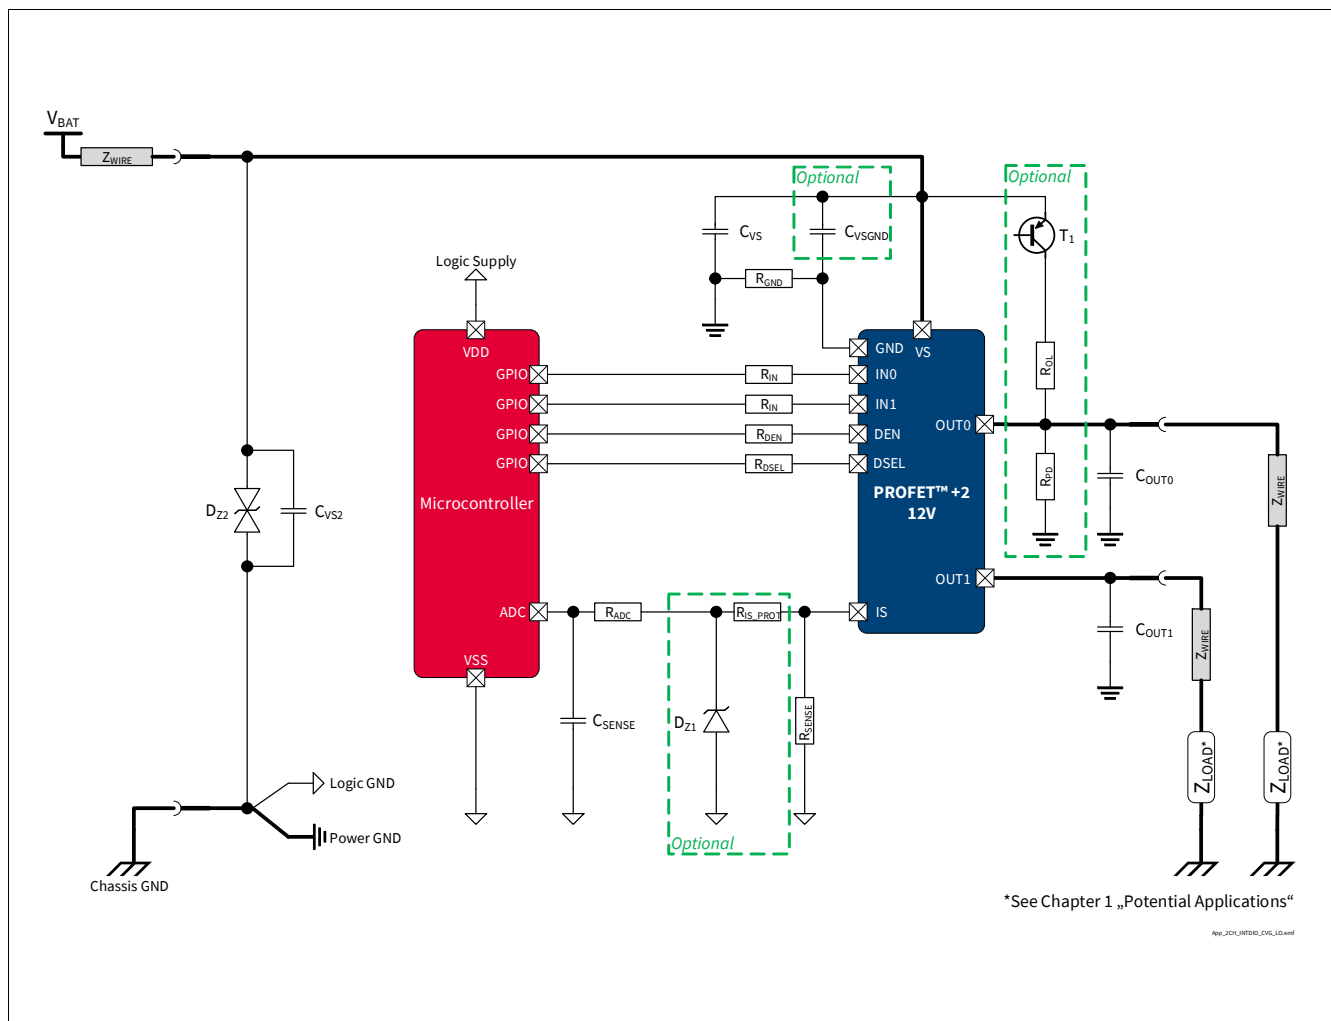

Figure 43 **BTS7020-2EPA Application Diagram**
1.05 , 2019-10-15	P_8.7.4.1, P_8.7.4.7, P_8.7.4.8 updated (added in Note or Test Condition: link to Figure 25) P_7.5.4.4, P_7.5.4.5 updated (added in Note or Test Condition: DEN = “low”; link to Figure 19) P_7.5.4.12 updated (added in Note or Test Condition: see Figure 21 ; deleted unnecessary space in Symbol: $ dV_{OUT} / dt \rightarrow dV_{OUT} / dt $) P_8.7.4.6 updated (added in Note or Test Condition: see Figure 26) P_9.7.4.1 updated (added in Note or Test Condition: See Figure 34) P_9.7.4.6 updated (Min./Max.: -45%/+45% → -29.5%/+29.5%) P_9.7.4.9 updated (Min./Max.: -38%/+38% → -24.0%/+24.0%) P_9.7.4.12 updated (Min./Max.: -34%/+34% → -23.5%/+23.5%) P_9.7.4.15 updated (Min./Max.: -22%/+22% → -12.0%/+12.0%) P_9.7.4.17 updated (Min./Max.: -9%/+9% → -7.3%/+7.3%) P_9.7.4.19 updated (Min./Max.: -6%/+6% → -4.1%/+4.1%) P_9.7.4.21 updated (Min./Max.: -5%/+5% → -3.7%/+3.7%) P_7.5.4.11 updated (added in Note or Test Condition: see Figure 19) Figure 1 , Figure 43 updated Chapter 1 updated (or LED equivalent → or equivalent electronic loads (e.g. LED modules)) P_4.3.0.7 added Table 24 updated Chapter 5.1 updated (added: see Chapter 10 for the complete application setup overview)